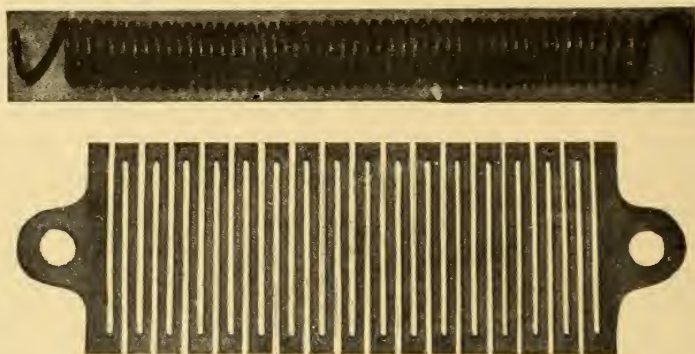

FIGURE 9
(37) Certain wires, known as "resistance wires," are wound into coils, each spiral separated approximately  $\frac{1}{8}$  inch from adjoining spirals; a number of such coils connected in series with each other constitute one type of rheostat. Iron of a certain grade cast into a "grid" and several of these grids connected into series with each other, is another popular rheostat element. The coil and grid types are illustrated in Fig. 9.
(38) These coils or grids are mounted upon a suitable metallic frame from which they are thoroughly insulated, usually by mica. Though details vary, the coil or grid is
Examining the grid, Fig. 9, it is seen that it is equivalent to a long cast iron wire. The coil shown in the same figure will be stretched somewhat when mounted, so that its spirals will be separated.